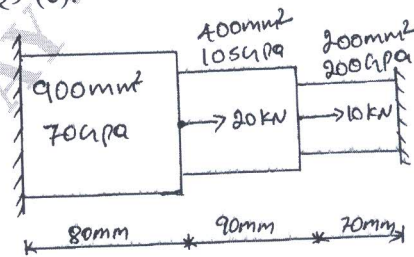

Fig. Q9 (c)
c. Find the nodal displacement, stress in the thickest section and left section reaction for the structure shown in Fig. Q9 (c). (10 Marks)